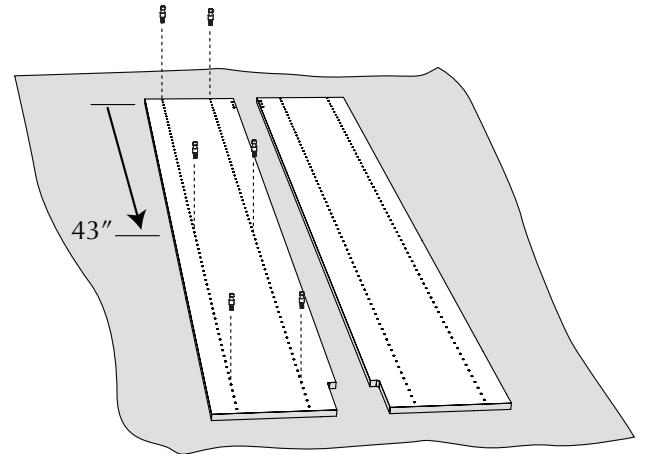

Fig. 1
1. Lay down both tower side panels (partitions) face up on the cardboard or cloth with the notched ends at the bottom facing in. (See Fig. 1.) Use a screwdriver to thread six (6) screw-in studs into one side panel (the one that will be on the side wall) as shown. Two (2) screw-in studs will go into top holes, two (2) screw-in studs will go into holes located 43" down from top, and two (2) screw-in studs will be above the baseboard notch (5th from the bottom of the panel). (Do not install studs into the other panel at this time!)